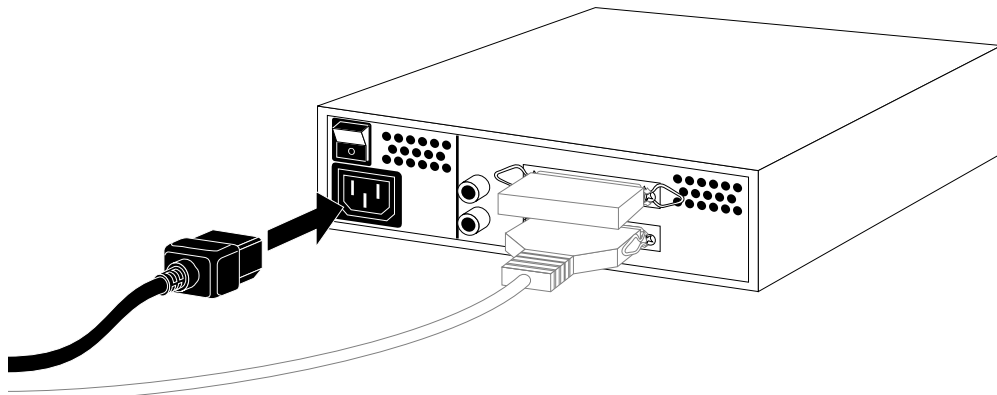

Figure 6-11 Connecting the Power Cable to an External Device
6. Connect one end of the power cable that came with your device to the power connector on the back of the device, as shown in Figure 6-11.